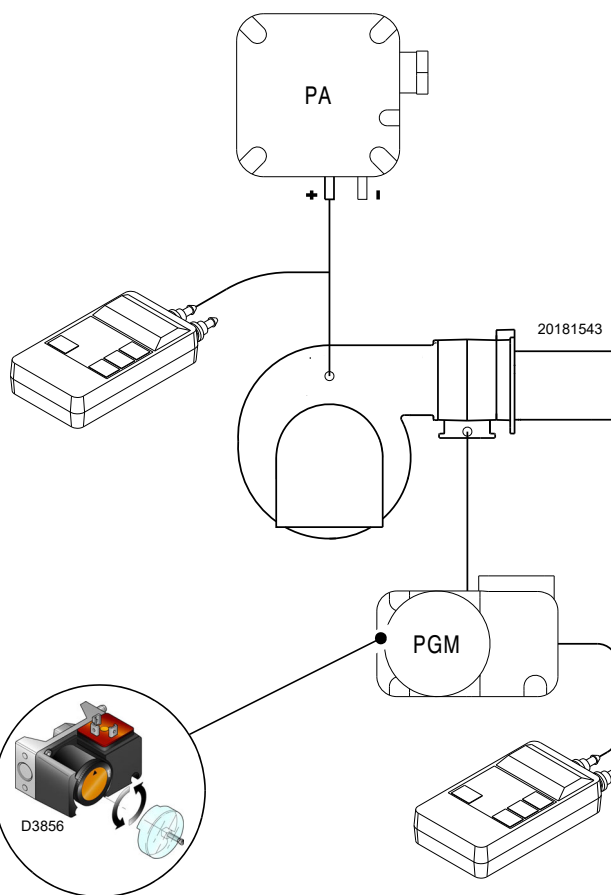

Fig. 28
- Adjust the maximum gas pressure switch (Fig. 28) to the end of the scale.
Adjust the maximum gas pressure switch (Fig. 28) after making all other burner adjustments with the maximum gas pressure switch set to the end of the scale.